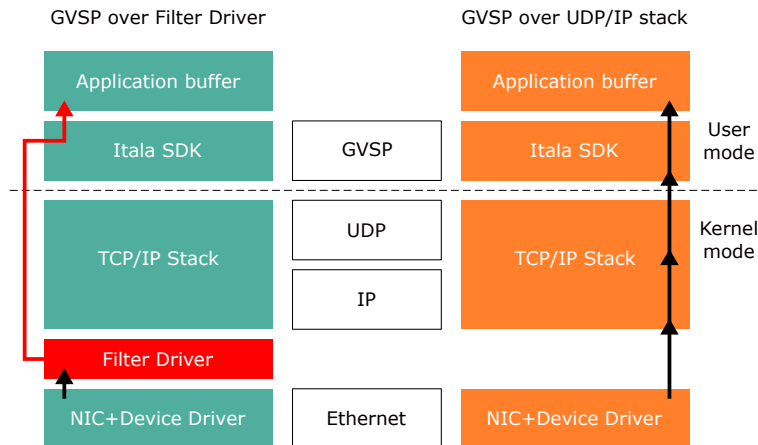

Figure 4: GigEVision Streaming (GVSP) with and without the Filter Driver
To better handle the image streaming high throughput, it's recommended to use the **Itala filter driver**. The filter driver intercepts *GigE Vision* streaming protocol packets, reassembles the whole payload and sends it directly to the application image buffer. This allows to skip the standard network protocol stack that would increase latency and CPU usage on the host machine (Fig.4). The result is a low level packet handling offload which optimizes the host system resources consumption.
4. At the end of the installation, the filter driver will appear in the NIC property window (Fig.4).